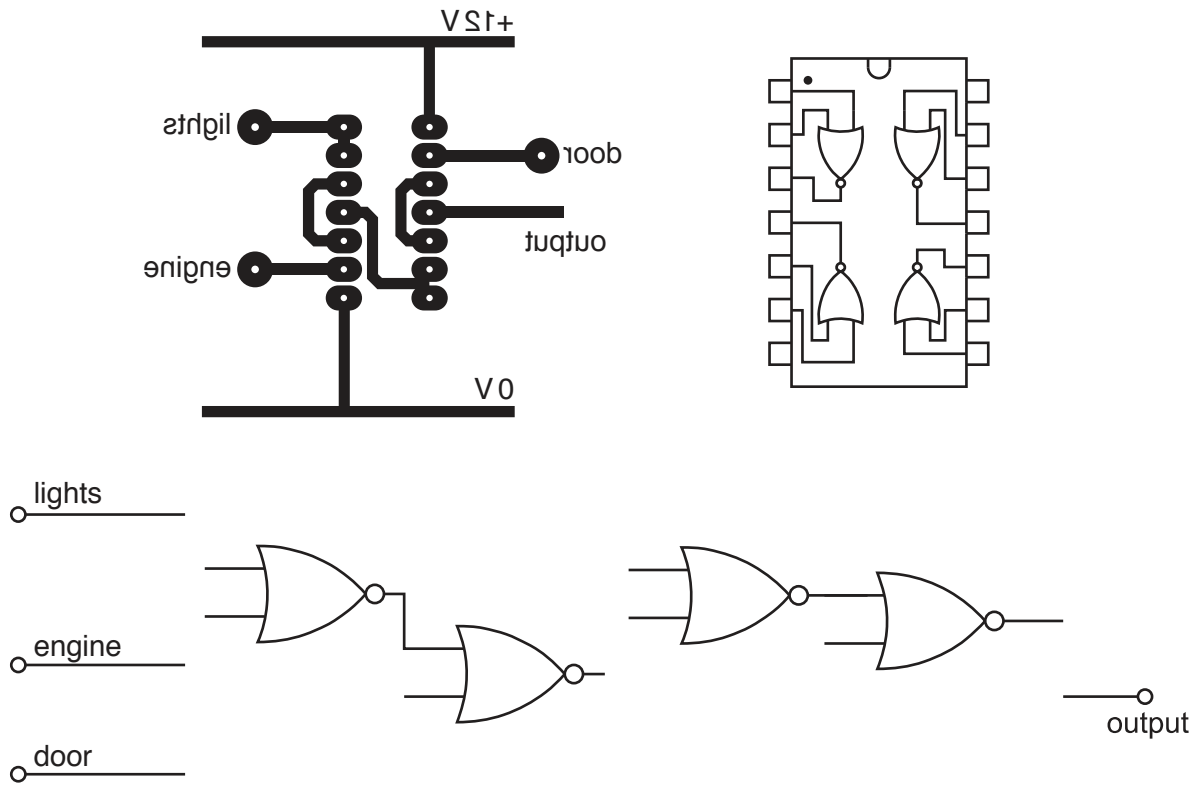

Fig. 19
Fig. 19 shows the PCB layout and part of the circuit diagram.
- (iii) Add connections to Fig. 19 to complete the circuit diagram for the logic gates. [4]